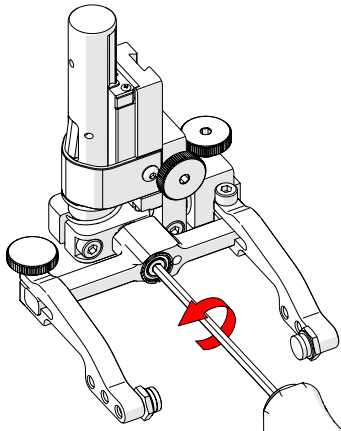

Fig. 105 - Unscrew yoke pivot screw
2. Using the supplied 3 mm hex driver (Fig. 27), unscrew the yoke pivot screw and remove the yoke (Fig. 105).